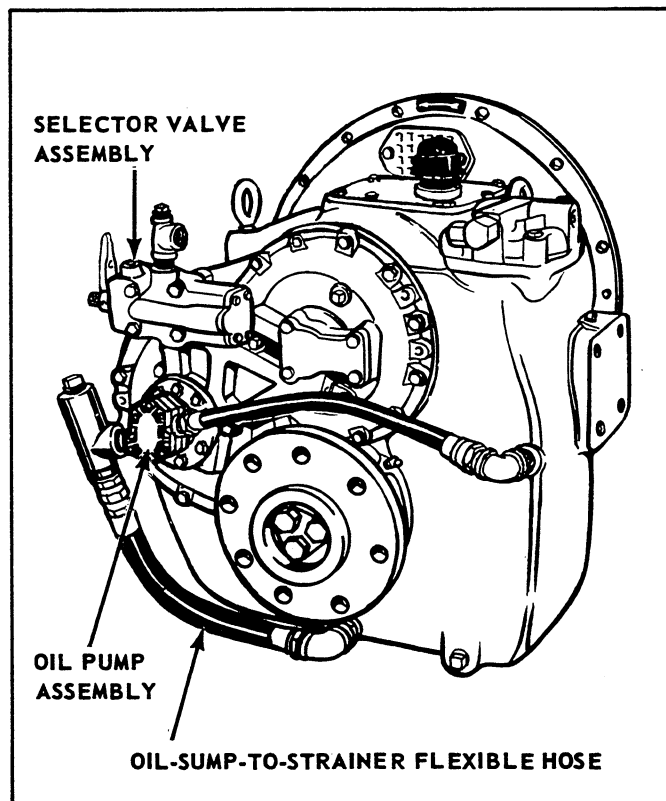

Figure 22. Pump Suction and To-Filter Flexible Hoses.
(1) Disconnect the linkage to the selector valve assembly and the pressure gauge assembly. Disconnect the heat exchanger inlet line.
(2) Remove the four hex-head capscrews that secure the selector valve assembly (Fig. 22) to the manifold. Remove the selector valve assembly, with attached parts, and the selector-valve-to-manifold gasket. Discard the gasket.
(3) Disconnect the swivel male adapter union from the oil-sump-to-strainer flexible hose (Fig. 22). Disconnect the swivel male adapter union from the oil-pump-to-filter flexible hose (Fig. 22). Remove the four hex-head capscrews that secure the oil pump assembly (Fig. 22) to the manifold. Remove the oil pump assembly, with attached parts, and the oil-pump-to-manifold gasket from the manifold. Discard the gasket. Remove the flexible hose from the pressure discharge side of the oil pump.
(4) Disconnect the swivel male adapter union from the oil-sump-to-strainer flexible hose (Fig. 22). Remove the four hex-head capscrews that secure the oil pump assembly (Fig. 22) to the manifold. Remove the oil pump assembly, with attached parts, and the oil-pump-to-manifold gasket from the manifold. Discard the gasket.
(5) Remove the ten hex-head capscrews that secure the top cover plate (Fig. 22) to the main